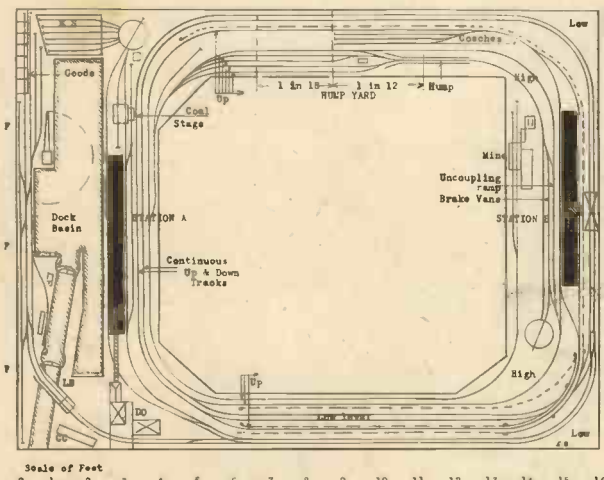

Fig. 2.—A plan of an 00-gauge layout for a room measuring 16 ft. x 12 ft.
The layout, Fig. 2, embodies the following interesting features. Two stations of the terminal type; up and down roads throughout; a continuous run so that trains may be operated as long as desired between the two stations; a single-line branch to a coal-mine; a large model dock basin complete with entrance lock, cargo crane, and three factories (F). These latter are arranged wholly on the background sheet, and may be built up of flat cardboard and brick-paper, using Mercro window sash papers. An absolute novelty incorporated is that of the gravity hump marshalling yard which we will discuss later. There is also a large locomotive depot to accommodate about a dozen engines. The whole of this system is included, without overcrowding, in a room 16 ft. by 12 ft., having an entrance on the north side. There are two levels in the layout, most of the formation on the east side being high-level (with rail-level 2½ in. above that of the low-level rail), the opposite west side being low, and the approach to the high-level occupying the north and south. The levels of the various tracks are clearly shown by the arrows.
In Fig. 2 is shown a somewhat more
Figs. 2 to 4.—Details of the arrow, axle bracket, and lampholder connections.
The arrow is made from tin or sheet brass. An old pair of scissors will cut tin, but you may need special shears for sheet brass unless it is very thin. Make the arrow according to the size of your circle; 4½ in. by ¾ in. is a suitable size. Cut it to the shape shown in Fig. 2 and punch a hole in the centre.